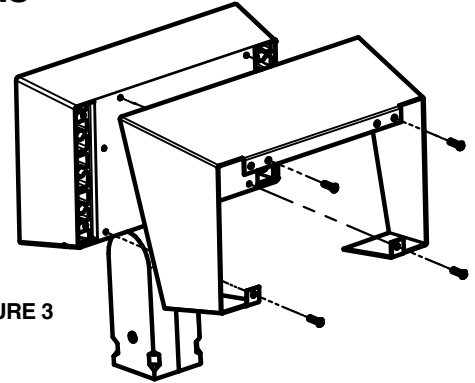

FIGURE 3
Mounting The Visor (See Fig. 3)
- Drill four holes using a #24 (0.152" diameter) drill bit, 1/2" depth, at the locations shown (Fig. 3). A small recess is provided on the housing for each drilled hole. No tapping of the holes will be necessary after drilling.